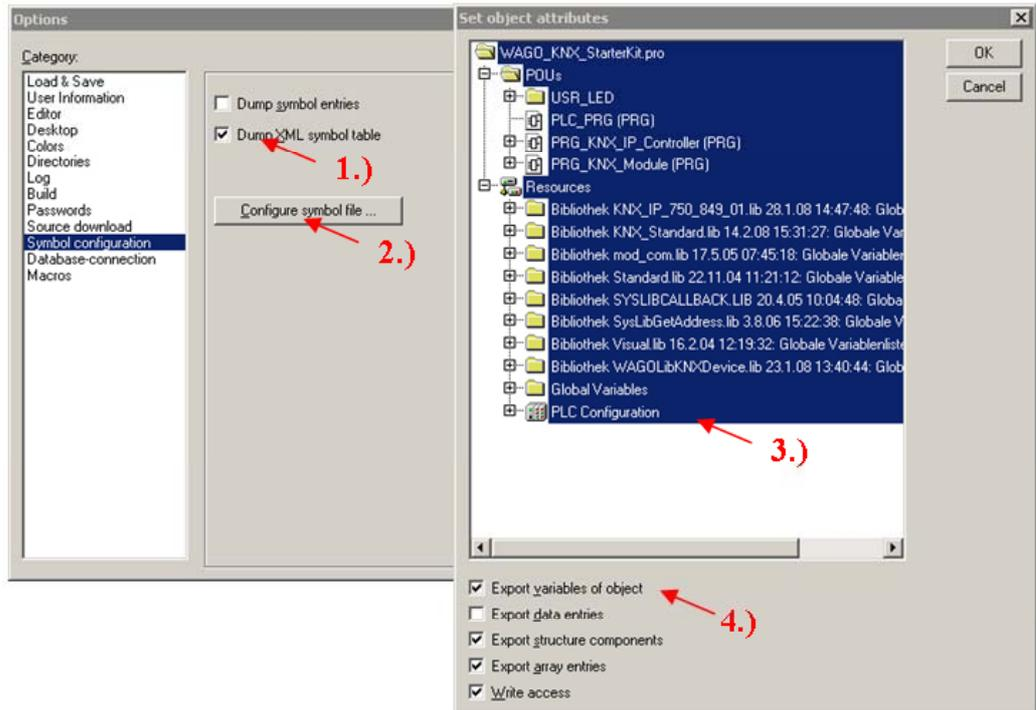

Fig. 23.: Symbol configuration settings
1. The **CREATE XML SYMBOL TABLE** option must be enabled (Fig. 23). After compiling the program, an XML symbol file is then created in the project directory and is given the name <projectname>.SYM_XML.